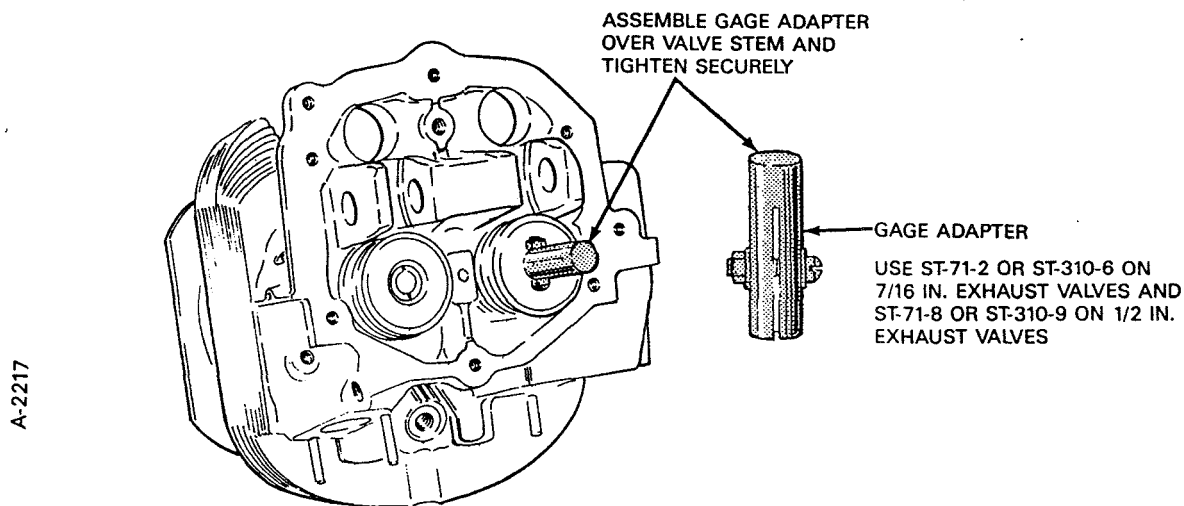

Figure 1. Gage Adapter Assembled on Exhaust Valve Stem
6. Engines With Sodium Cooled Exhaust Valves: Install the gage adapter over the end of the valve stem and tighten it securely. If the adapter can be rocked on the valve stem by hand, it is not correctly secured. The valve retainer keys do not need to be removed from this type valve stem. Refer to Figure 1.